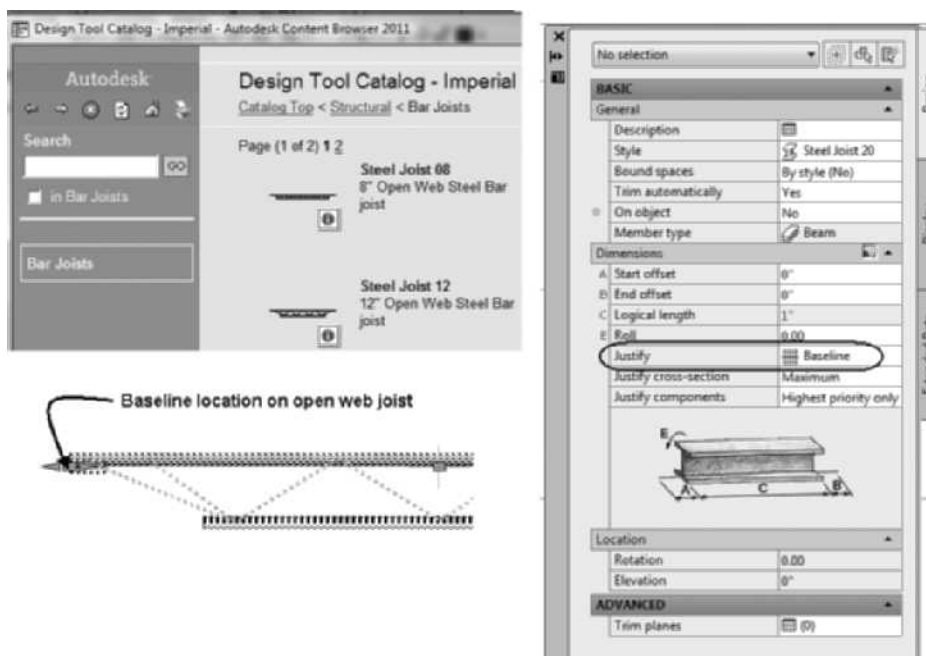

FIGURE 13.18 Baseline location of a bar joist
The tools for creating open web joists are located in the Bar Joists category. This catalog is accessed from the Content Browser in the Design Tool Catalog - Imperial > Structural category. Bar joists are *not* included in the Design Tool Catalog - Metric. The bar joist tools can be i-dropped from the catalog to the current drawing. When a bar joist tool is i-dropped into the drawing, the style will be included in the **Style** list of the Properties palette for a Beam. Therefore, additional joists can be added using the **Beam** tool with the Bar Joists style assigned in the Properties palette. The **Baseline** justification should be used when placing bar joists, because the baseline is located at the bearing surface of the bar joist, as shown in Figure 13.18.
3. Select the **Structural > Bar Joists** catalog as shown in Figure 13.18.